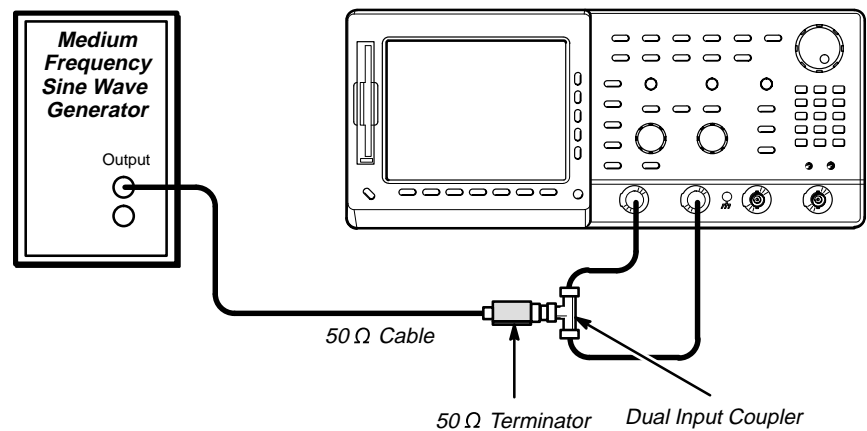

Figure 1-10: Initial Test Hookup
- Connect, through a 50 Ω precision coaxial cable, followed by a 50 Ω termination, the sine wave output of a medium-frequency sine wave generator to a dual-input coupler. See Figure 1-10.